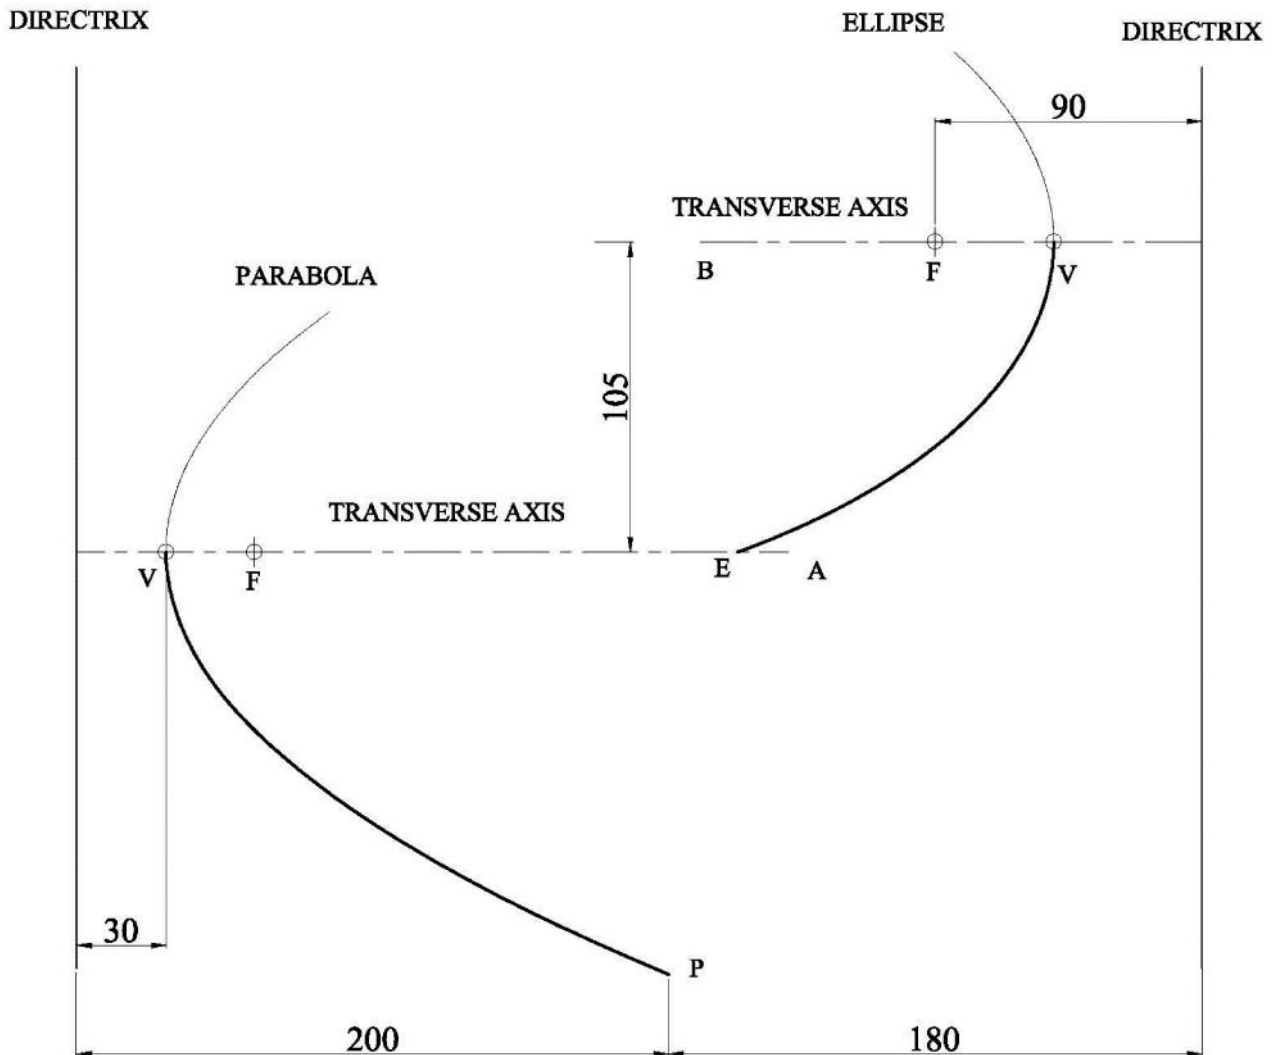

FIG. 4
- a) lower part of the parabola V-P, shown in Figure 4, using the transverse axis V-A, directrix, vertex, and focus,